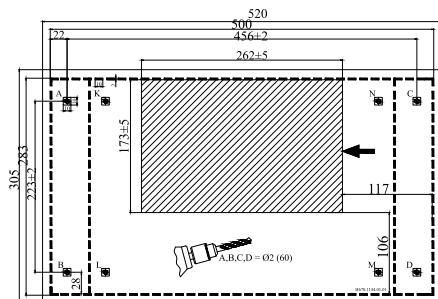

Figure 3 - Installation template
The SL-series range hoods are designed for hidden installation in a kitchen cabinet. Figure 3 below shows the distances between the installation openings for installation in a kitchen cabinet.
- Mark on the bottom of the cabinet and drill 4 holes with diameter Ø2mm, taking into account the distance between the installation openings specified in Figure 3.